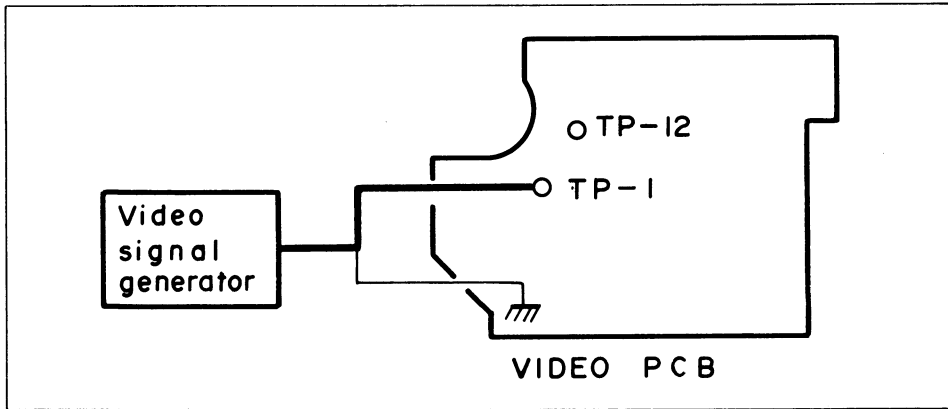

Fig. 5-63. Gate Pulse checking
1. Connect the oscilloscope to TP-12 (Gate Pulse) on the Video printed circuit board and apply the color bars from the video signal generator to TP-1 (Video in). Refer to Fig. 5-63.